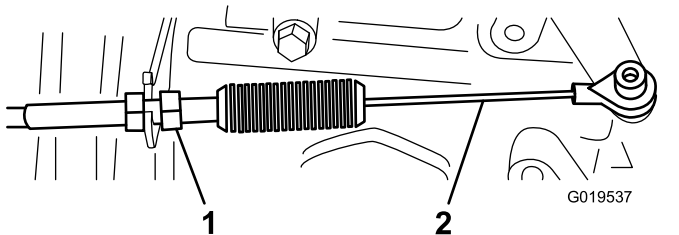
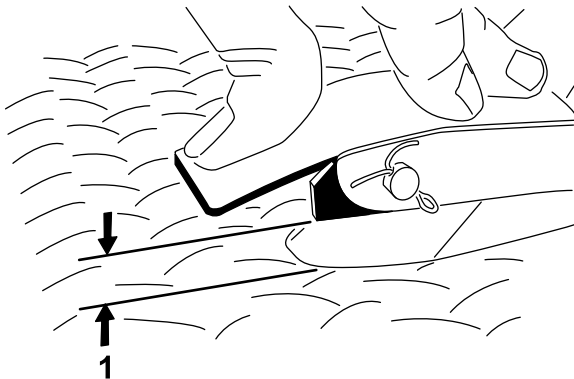

Figure 64
Figure 65
2. Adjust the ball joint on the accelerator cable (Figure 64) to allow 2.54 to 6.35 mm (0.100 to 0.250 inch) of clearance between the accelerator pedal arm and the top of the diamond tread floor plate (Figure 65), when you apply 11.3 kg (25 lb) of force to the center of the pedal.
3. Tighten the locknut (Figure 64).